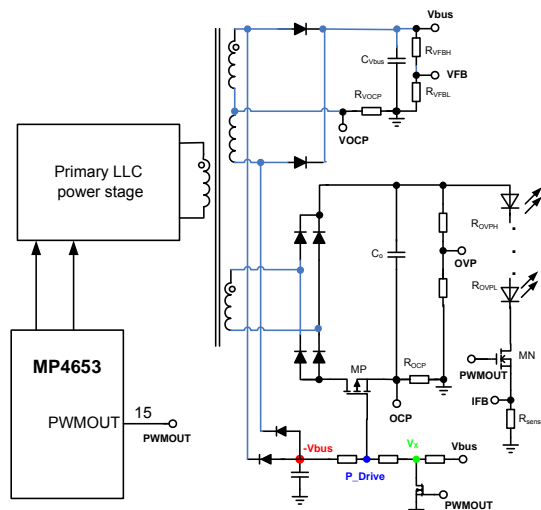
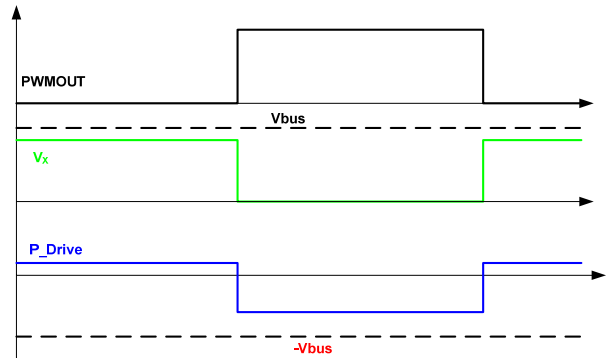

Figure 5A—PWMOUT for the P_MOS Driver
Figure 5B—Scheme of the PWMOUT Driving the P_MOS
The PWMOUT signal is also used to control the external P-MOS (MP) for protection, as shown in figure 5A. Figure 5B shows the operating scheme of this driving circuit. A negative voltage source ($-V_{bus}$) is generated from the secondary winding of DC bus stage. A pulse waveform at “ V_X ” is generated through the PWMOUT signal. By summing the negative voltage source and V_X , a pulse waveform with a negative magnitude is generated on “P_Drive” (the P-MOS gate) and is used to drive the P-MOS.